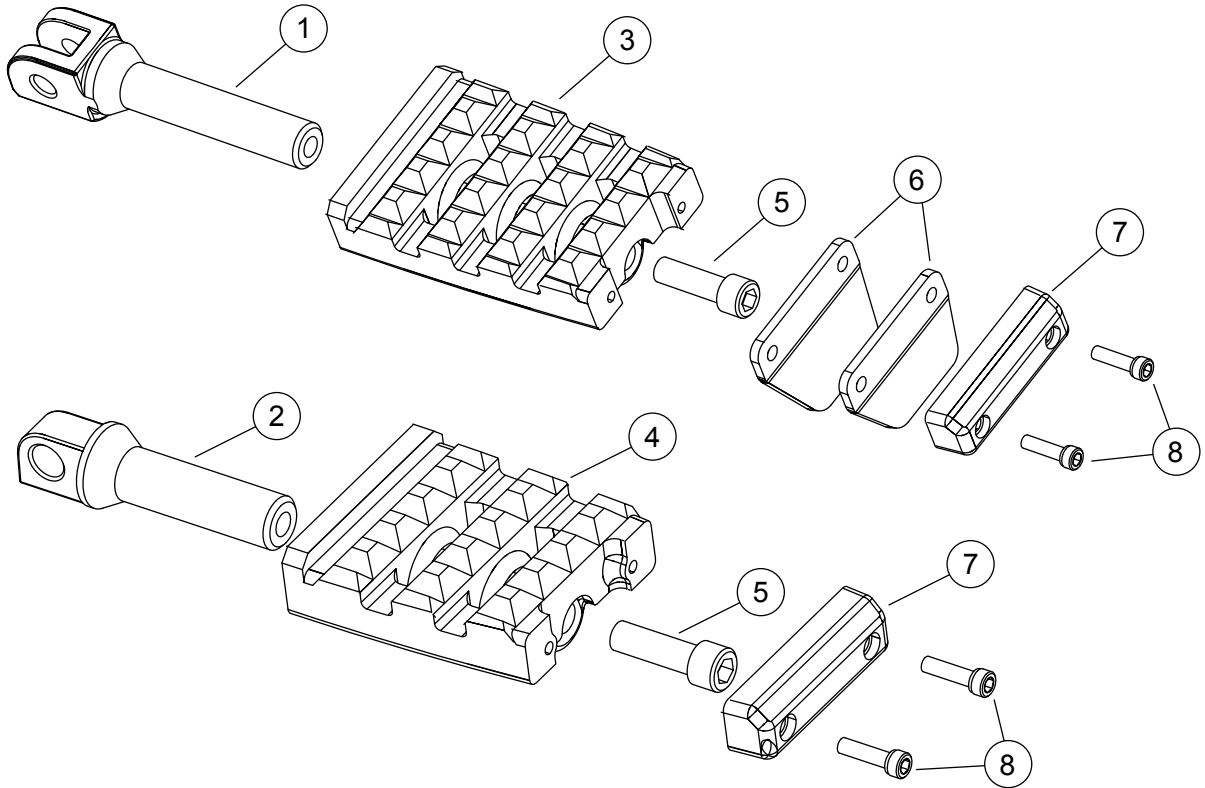

Figure 4. Service Parts: Footpeg Kit and Insert
See Figure 4 and Table 1.
1. See Figure 4. Remove two screws (8).
3. Apply threadlocker to the screws (8) and install screws (8). Tighten.